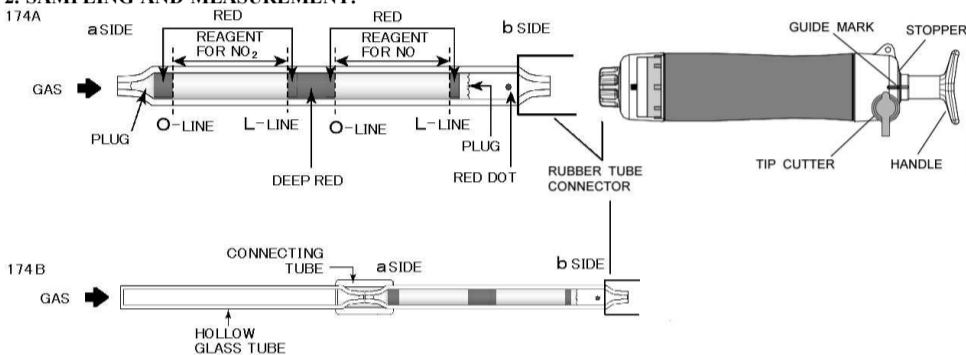
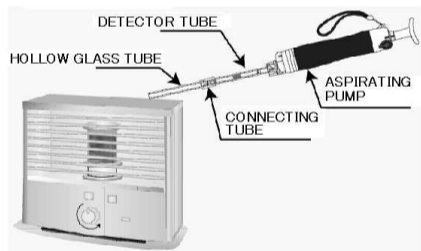
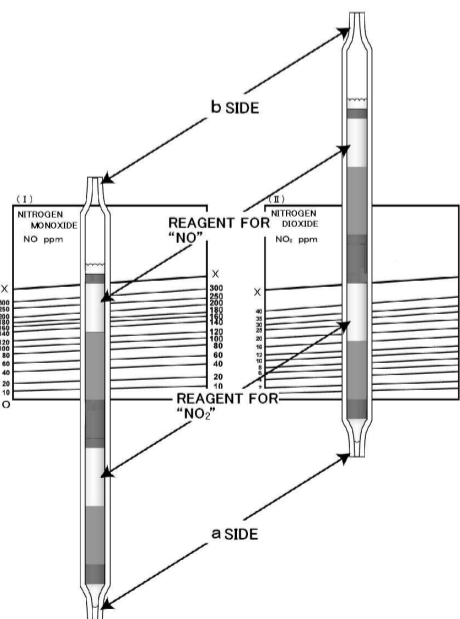

Fig.1
Fig. 2
Fig. 3
- ① Break both ends of the detector tube.
- ② Insert the end of the detector tube of the **b SIDE** into the aspirating pump securely as shown in Fig. 1.
- ③ Align the guide marks on the shaft and stopper of the aspirating pump.
- ④ Pull the pump handle at a full stroke until it locks and wait for 1.5 minutes or until the completion of sampling is confirmed with the flow indicator of the pump. (See descriptions about the flow indicator in the instruction manual of the pump.)
- ⑤ On completion of sampling, remove the detector tube from the pump and read a concentration with the concentration chart as shown in Fig. 3.
- ※ In case of 174B, connect the hollow glass tube to the detector tube with connecting tube as shown in Fig. 1 and Fig. 2.
2. Place the edge of the detecting reagent of the gas inlet side to the 0 - 0 line on the concentration chart and the other edge to the X - X line respectively to read out a each gas concentration of NO and NO2 at the end of the discoloured layer as shown in Fig. 3.